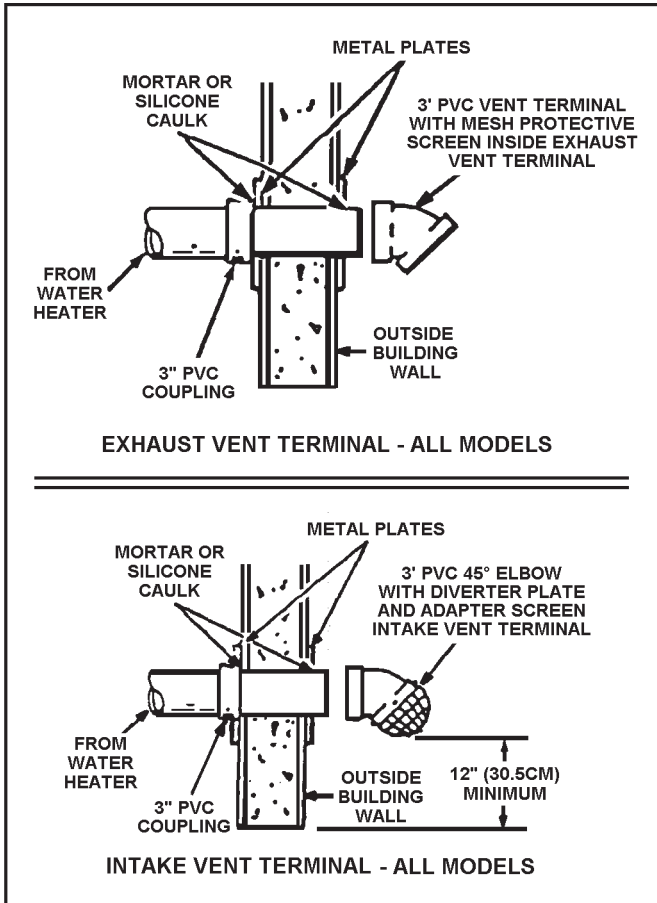

FIGURE 9.
1. The intake vent terminal and the exhaust vent terminal must terminate on the same exterior wall and must be located at a minimum of 24" (61cm) from the vertical centerline of the exhaust vent terminal (see Figure 9). In colder climates increasing the 24" (61cm) minimum will reduce possibility of frost over from side winds blowing exhaust vapors to the air intake of the direct vent.
2. The horizontal centerline of the intake vent terminal may not be located lower than the horizontal centerline of the exhaust vent terminal (see Figure 9).
8. If the vent pipe is installed up to the wall, with a coupling on the end against the wall opening, the pipe with the vent terminal can be prepared for gluing before inserting through the wall. Slide the pipe through the wall and insert into coupling on the other side of the wall, making sure that the vent terminal ends up pointed in the correct position (See Figure 9).